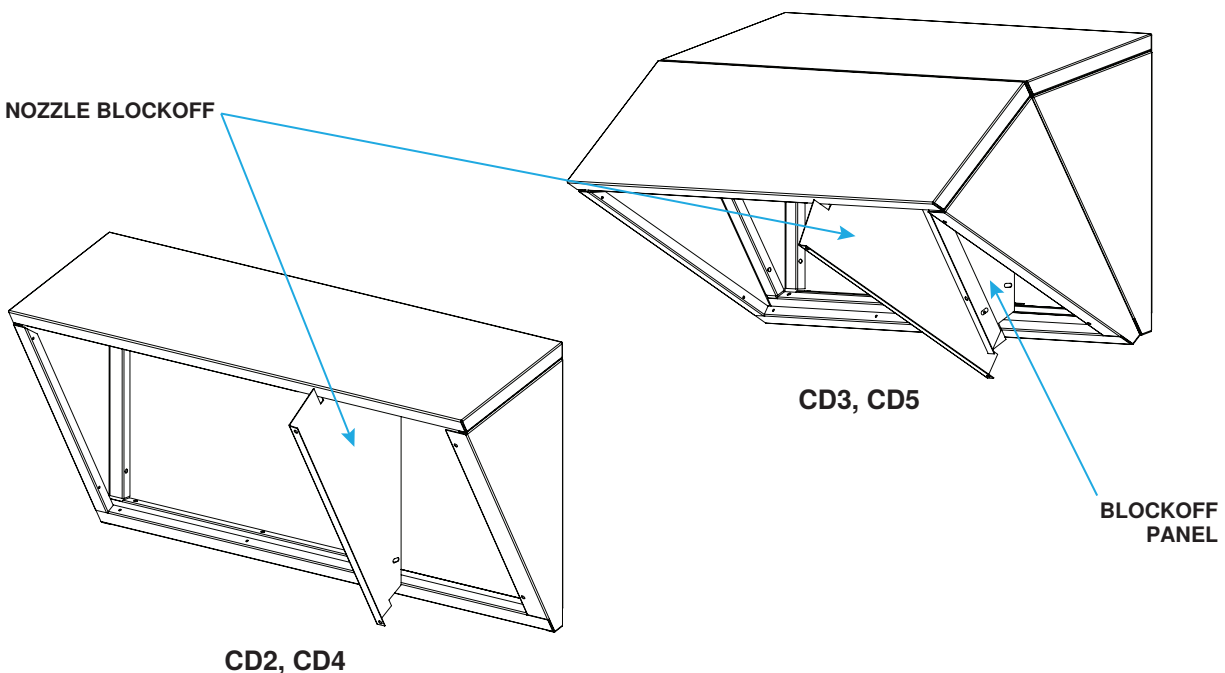

Figure 2. Gas-Fired Unit Heater Downturn Nozzle Assemblies
1. Assemble top and side panels of downturn nozzle assembly (see Figure 2):
6. If installing option CD3 or CD5, position second assembled nozzle section in outlet of nozzle already assembled. Secure second nozzle section to first nozzle section using screws from kit to create downturn with two sections (see Figure 2).
- c. Slide nozzle bottom (see Figure 2) into place so that it rests on small tabs on each side. Align holes and secure nozzle bottom to face plate using screws from kit.
- b. Position nozzle blockoff (see Figure 2) so that holes align and secure to face plate using screws from kit.
- c. If installing option CD3 or CD5, secure blockoff panel (see Figure 2) to nozzle blockoff.